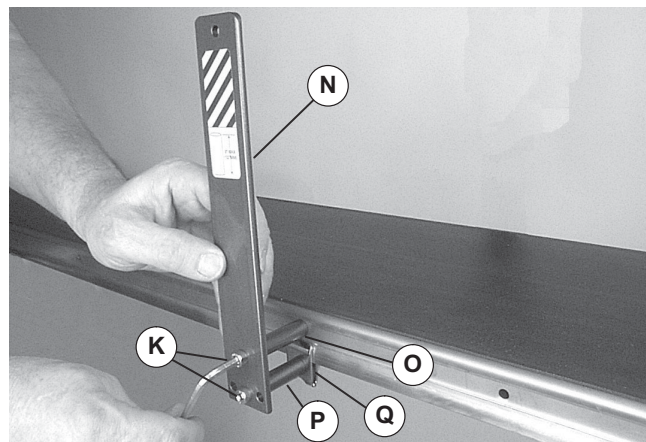

Figure 10
3. Loosely attach support bracket (Figure 10, item N) with screw (K) and spacer (O) in upper hole of bracket and tapped hole in conveyor.